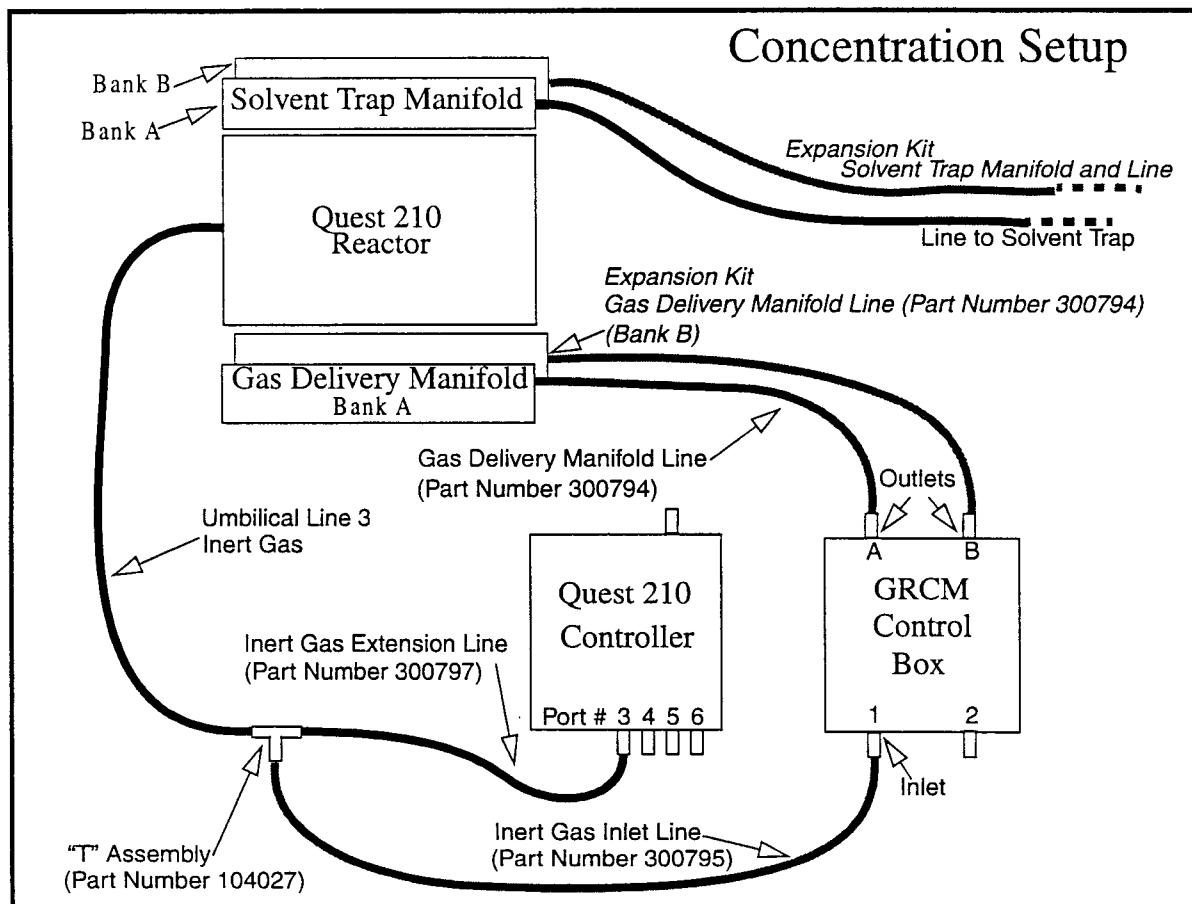

Figure 9: Setup for Evaporation (Concentration)
1. Set up the Quest and GRCM as shown in Figure 9